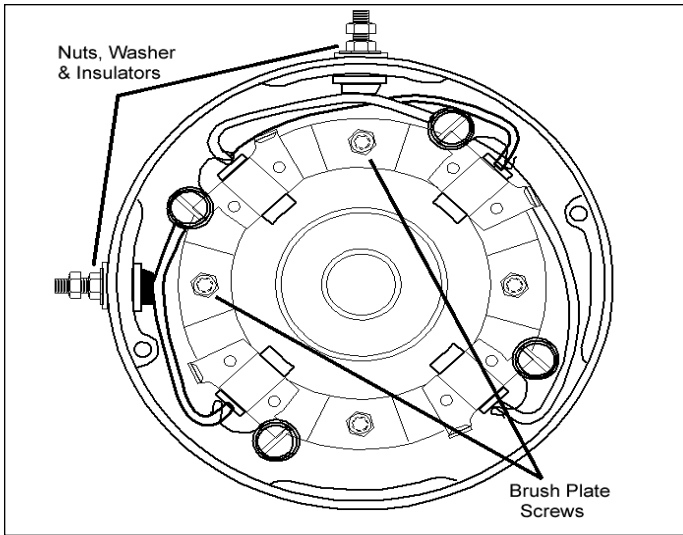
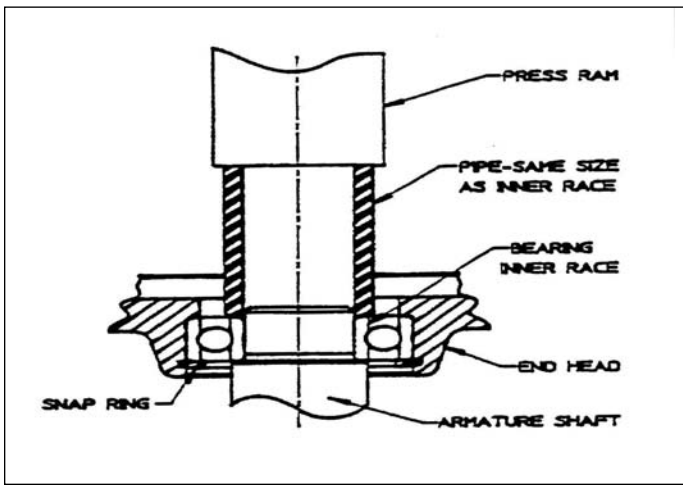

Figure 25 - Brush Removal
Figure 31 - Press Bearing and End Cover on to Armature
- Remove terminal nuts, washers and insulators. Remove (4) brush plate screws, remove brush plate assembly and terminal assemblies. See Figure 25.
4. Install brush holder into motor end cover as shown in Figure 25. Install insulators and brush leads into cover, see Figure 31. Motor terminals should be torqued to 140 in./lbs. (15.5 N.m.).
6. Press motor end housing and bearing onto armature, pressing only against inner race. See Figure 31.